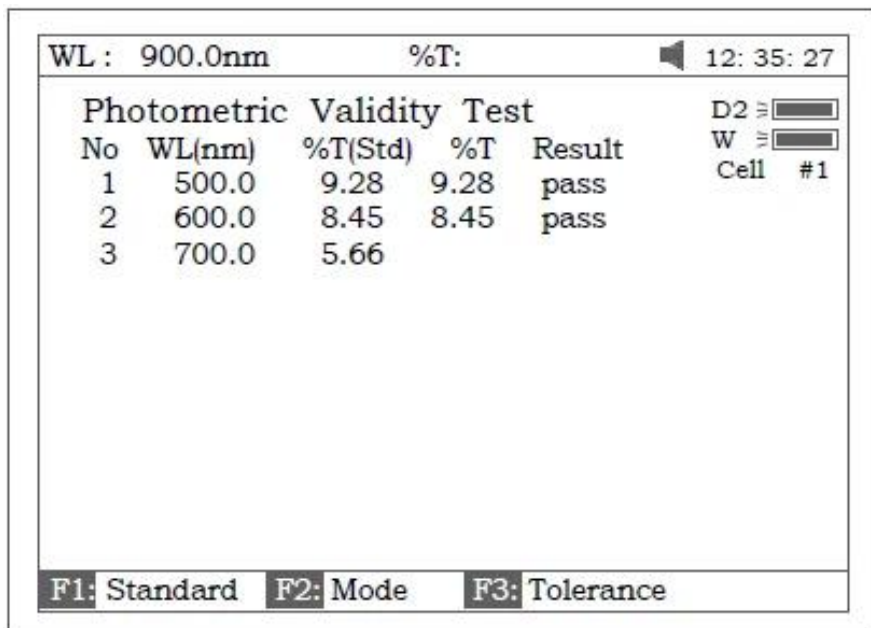

Figure 94
6. Put the sample (calibrated neutral density filter) into Main Light Path. Press **【START】** to check. The results will be displayed on the screen (Fig 94). If the discrepancy between the results and the calibrated standards is not more than the tolerance, "pass" will be displayed after the test result. Otherwise, "fail" will be displayed.